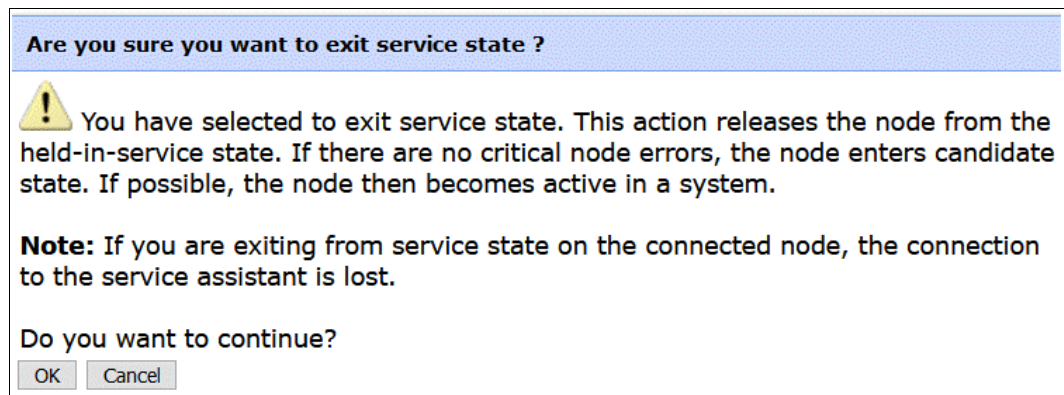

Figure 13-11 Exit service state
- Select the radio button for the node canister that is in service and then select **Exit Service State** from the **Actions** menu. Click **GO**, and a confirmation window opens, as shown in Figure 13-11.